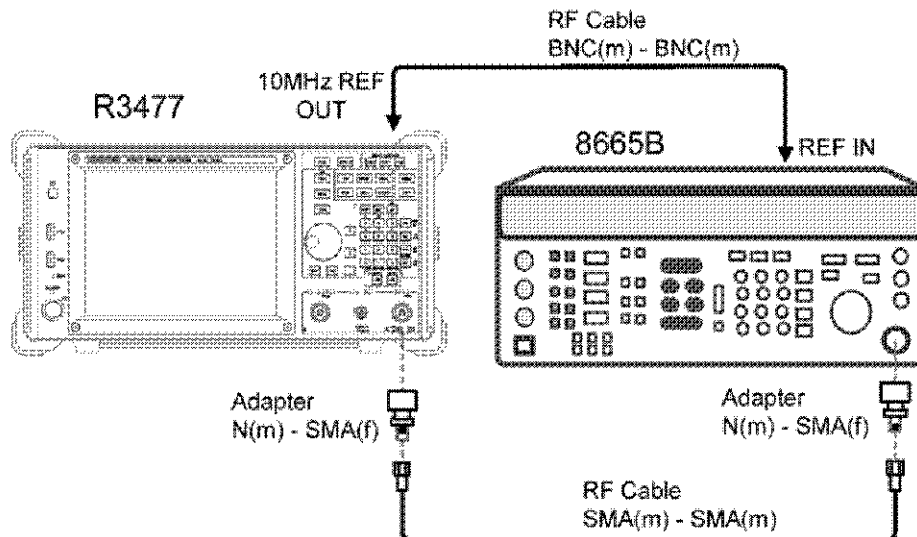

Figure 2-7 Signal Purity Test
1. Connect the instruments as shown in Figure 2-7.